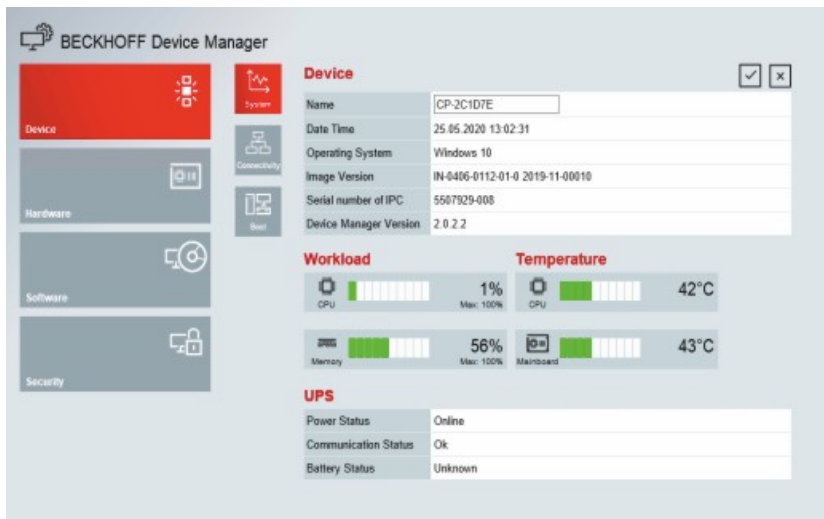

Fig. 26: Beckhoff Device Manager – Start page
2. Lift the PC far enough so that the fastening screws slip into the keyholes (see fig. 26).